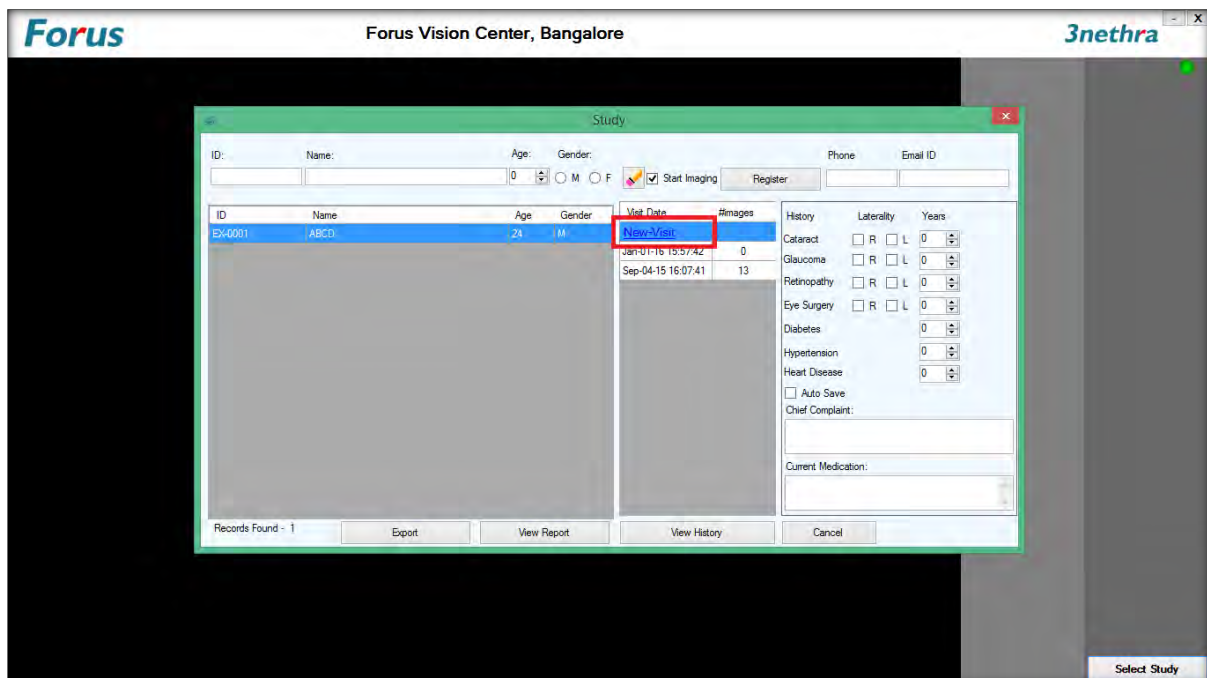

Figure 15: Study List
2. All registered names starting with the first 3 characters entered will appear on screen as in Figure 15.